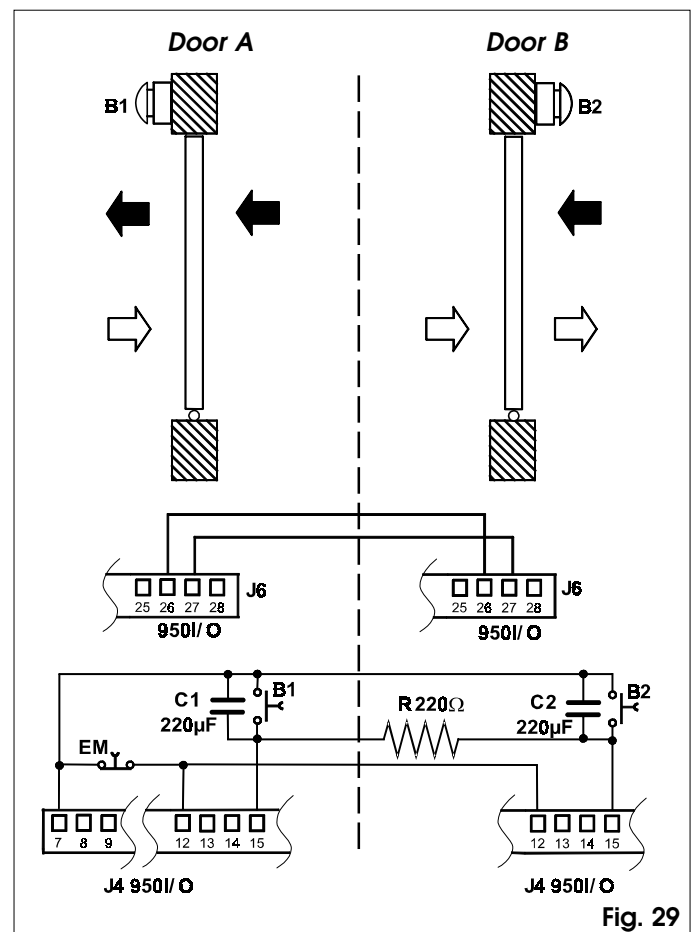

Fig. 29
- Make the connections between the 950I/O control units of the two automated systems, of the pushbuttons and additional electronic components as shown in figure 29.